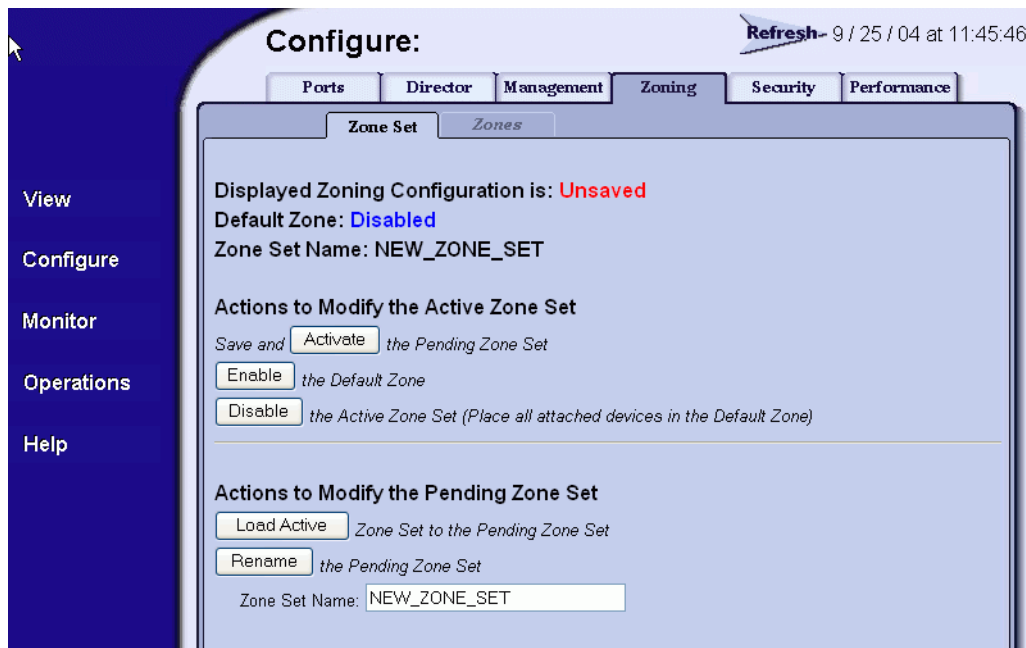

Figure 2-30 Configure Panel (Zoning Page with Zone Set Tab)
1. At the *Configure* panel and *Zoning* page, click the *Zone Set* tab. The *Zoning* page displays with the *Zone Set* tab selected (Figure 2-30).